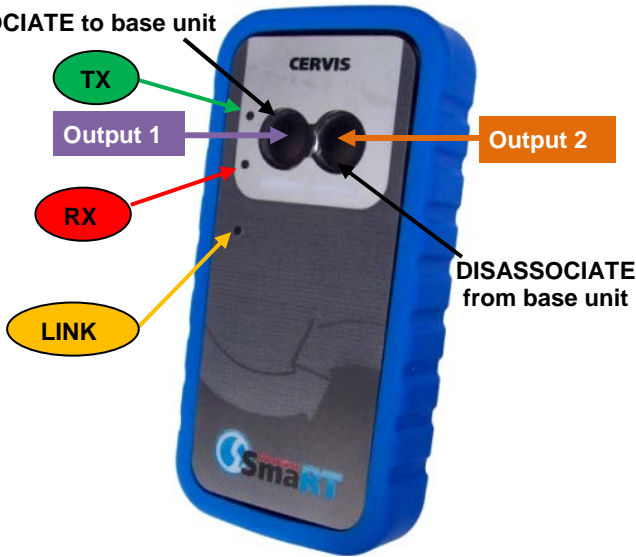

Figure 3. Handheld PTO Buttons
- Figure 3. Handheld PTO Buttons4
3. Simultaneously press and hold the Association and Disassociation buttons (see Figure 3). The TX LED lights steady green.
5. When the LINK LED flashes amber, release the two buttons. The RX LED flashes red allowing two (2) seconds for you to make the next button press.
6. Press and hold the Association button (see Figure 3 below). The RX LED extinguishes, the TX LED lights steady green, and the LINK LED lights steady amber.
3. Press and hold both the Association and Disassociation buttons (see Figure 3). TX lights steady green.
5. When LINK flashes amber, release both buttons. The RX button flashes red allowing two (2) seconds for you to make the next button press.
6. Press and hold the Disassociation button. (See Figure 3 above.) The RX extinguishes, the TX lights steady green, and the LINK LED lights steady amber.